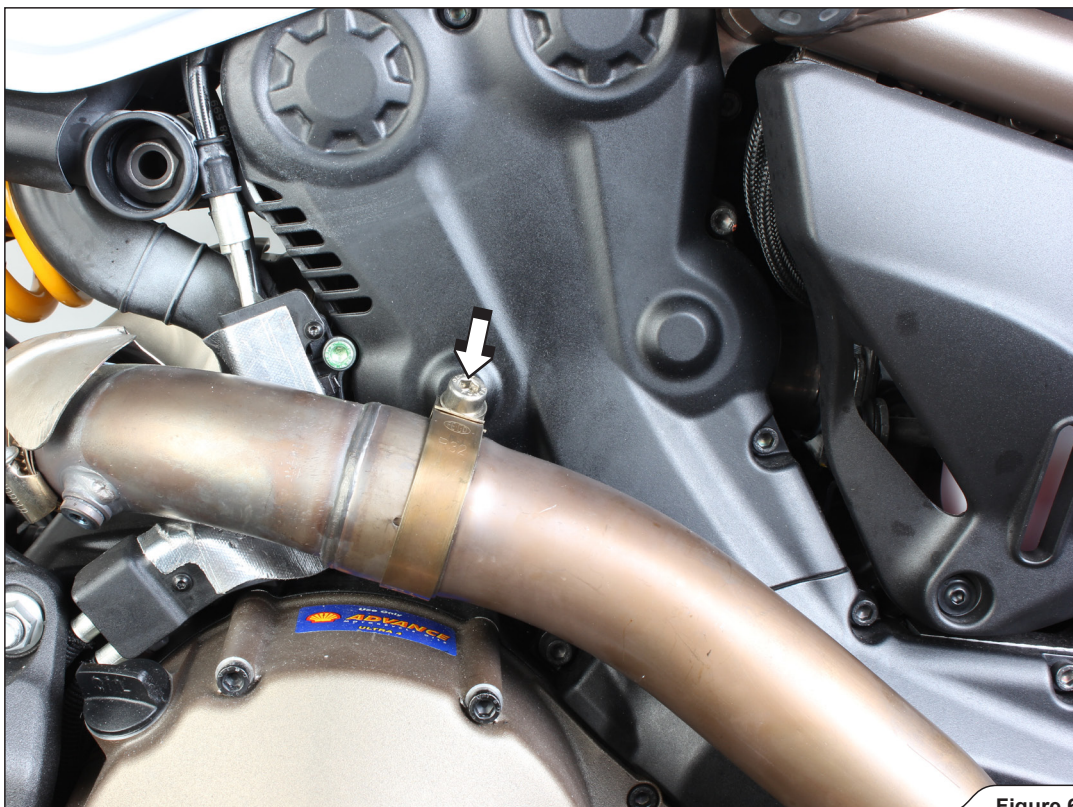

Figure 6
8. Loosen the marked clamp and carefully remove the rear header (Figure 6).